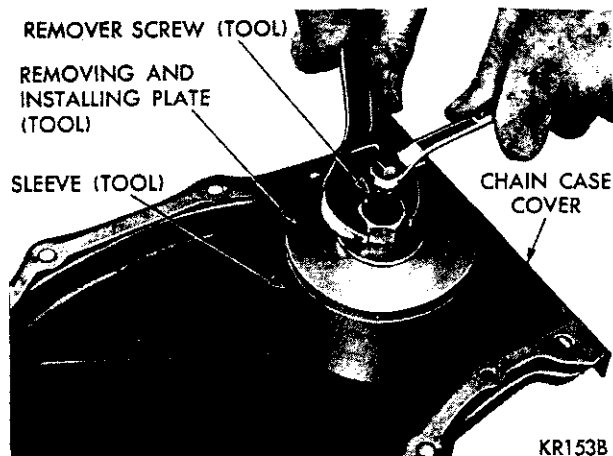
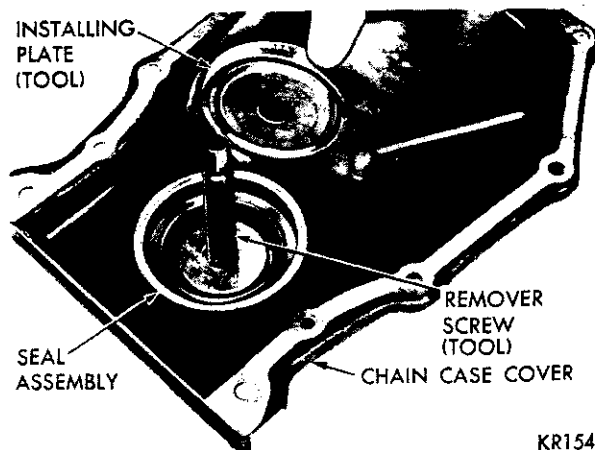

Fig. 20—Removing Oil Seal
Fig. 21—Positioning Installer Plate
(4) Place flat washer and nut on the remover screw. Hold center screw and tighten remover nut to remove the seal (Fig. 20).
(5) Insert remover screw through the removing and installing plate so thin shoulder will be facing up.
(6) Insert remover screw with the plate through seal opening (inside of chain case cover facing up).
(7) Place seal in cover opening, with neoprene down. Place seal installing plate into the new seal, with protective recess toward lip of seal retainer (Fig. 21). **The lip of the neoprene seal must be toward source of oil.**